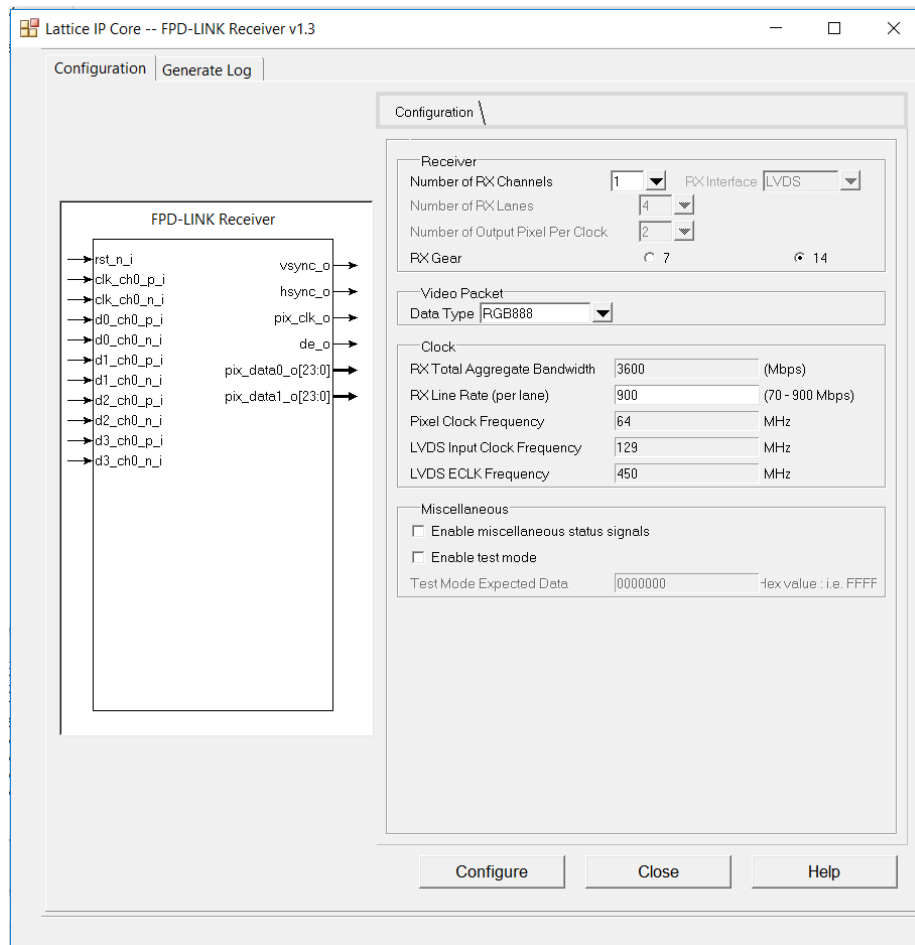

Figure 5.4. Configuration Tab in IP Interface
3. Click the **Customize** button. An IP configuration user interface is displayed as shown in Figure 5.4. From this dialog box, you can select the IP configuration specific to your application.